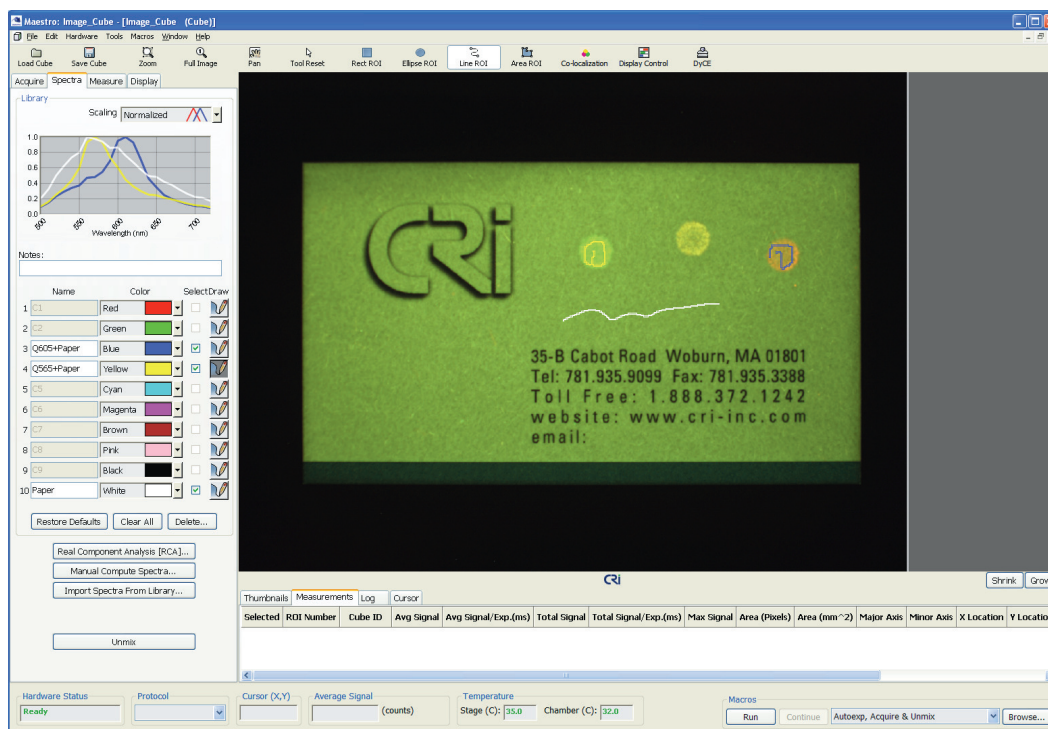

Figure 22. Image Cube with Sampled Spectra
- a. Click the **Draw**  button in the last row of the color palette and use the mouse pointer to sample (by clicking and drawing a line through) an area of autofluorescence on the business card (see Figure 22).
- a. Click the **Draw**  button in row #3 and sample an area (by drawing a line) within the 605 nm QDot spot. This is the dot on the far-right side (see Figure 22).
5. In row #4, use the Yellow color marker to sample the QDot spot that contains the 565 nm fluorescence plus the paper. This is the dot on the far-left side. Name this mixed spectrum "Q565+Paper." Your work area should look similar to Figure 22.